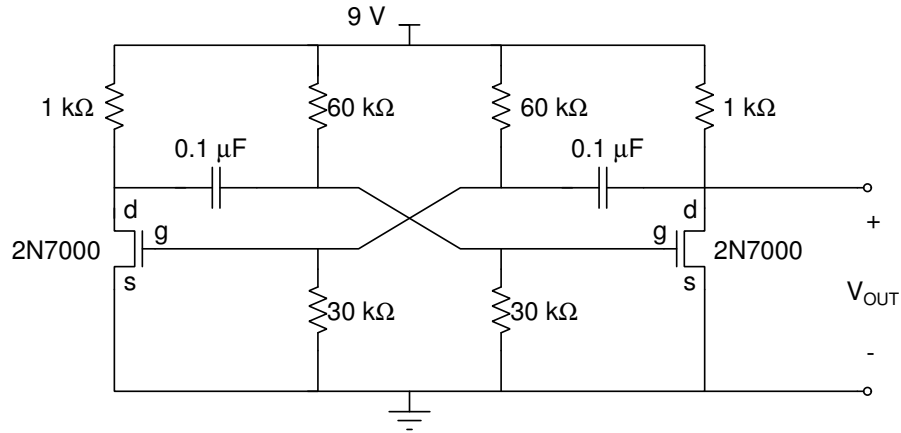

Figure 4: Astable multivibrator circuit.
4. Build the astable multivibrator circuit shown in Figure 4. This is the complete multivibrator circuit and it should oscillate when the power is supplied.